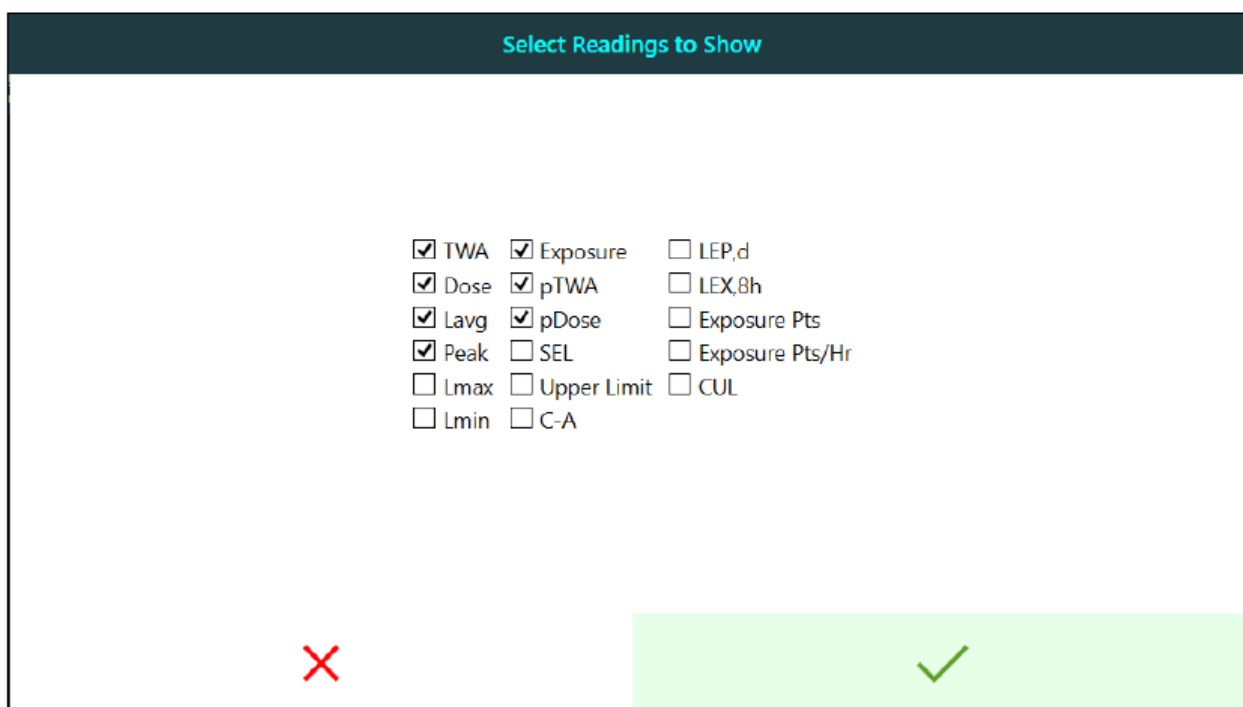

Figure 11a. Select Readings to Show
**Note:** Select Readings allows selection of readings to be shown (Figure 11a) in the report. Selection buttons to export original summary, modified summary, or both summaries and the warning “Modified summary” appear only if you modified data in the selected run history by adding exclusion zones (see Logs or Zones). Click on the check mark to create and save the report to your PC or on X to close the window without creating the report. See the sample report in Appendix B.